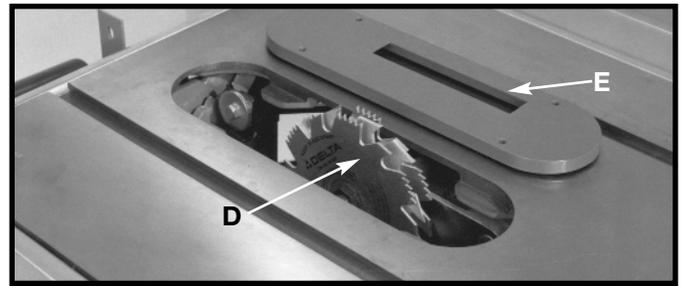

Fig. 57
2. Attach the dado head set (D) Fig. 57, to the saw arbor.
**⚠ CAUTION** THE ACCESSORY DADO HEAD SET TABLE INSERT (E) FIG. 57, MUST BE USED IN PLACE OF THE STANDARD TABLE INSERT.